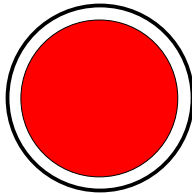

Figure 48. Contactor Closed Lamp
17. Verify that the contactor **CLOSED** lamp (Figure 48) is lit (RED).
3. Once in **AUTO** mode, the controller monitors the auto-start contacts awaiting a closure. A closed contact signal will start the engine, automatically closing the contactor. Refer to Figure 48.